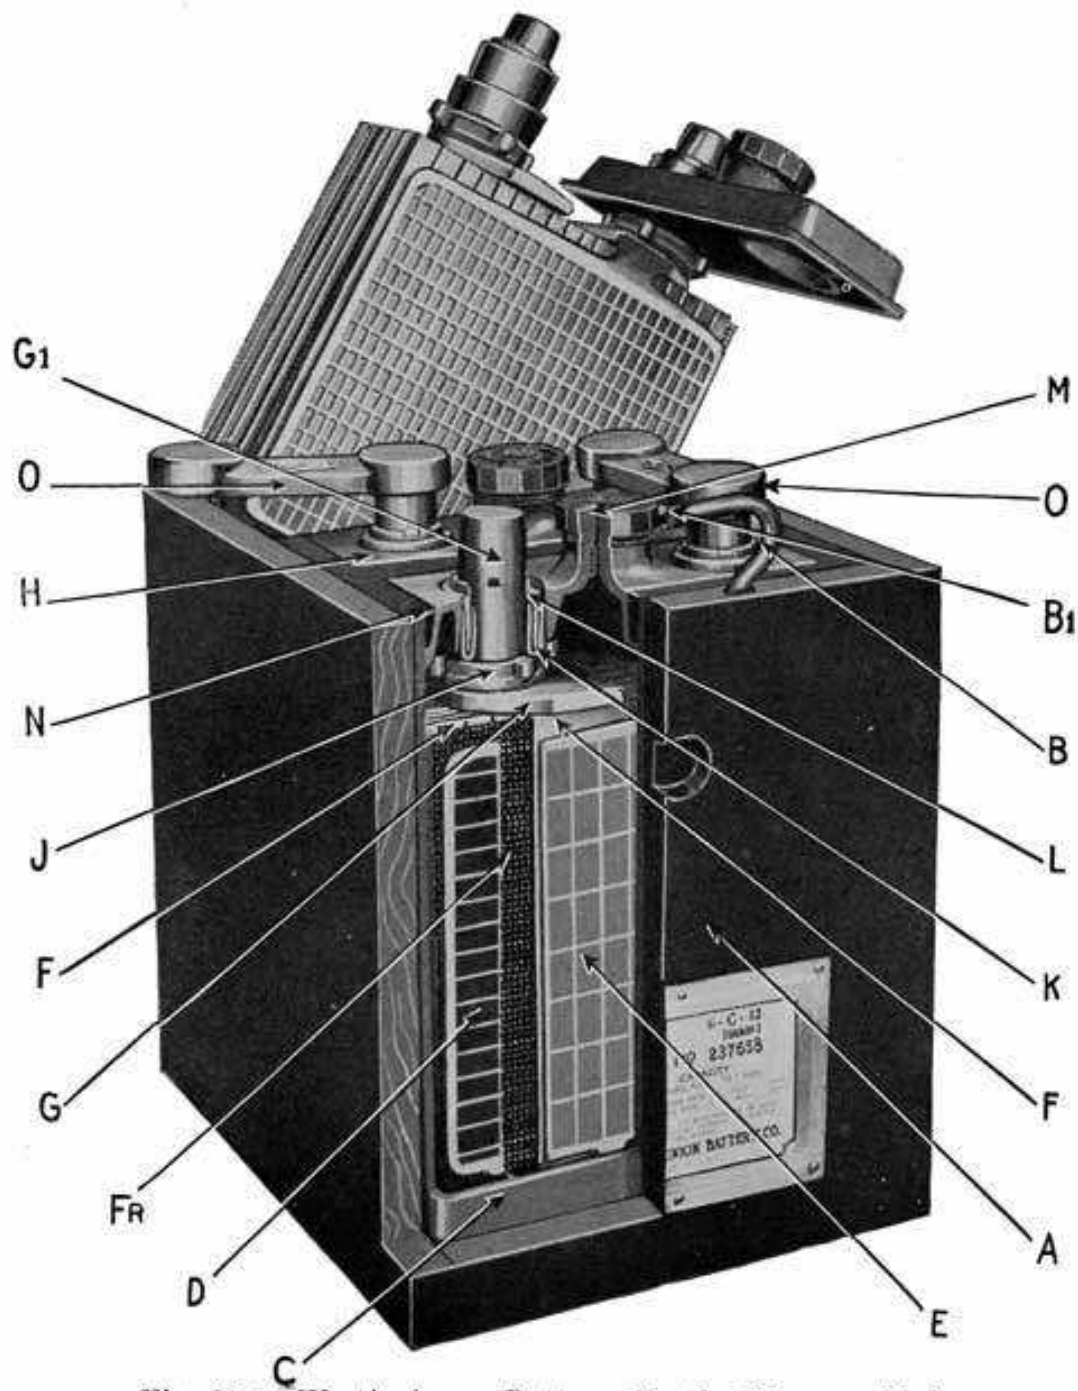

Fig. 275. Westinghouse Battery, Partly Dis-assembled
Westinghouse batteries have a special seal between covers and posts, as' shown in Fig. 275. A lead foundation washer (J) is set around the post. A "U" shaped rubber gasket, (K) is then forced between the cover and post, with the open end up. The lips of this gasket are tapered, with the narrow edge up. A tapered lead sleeve (L) is then forced between the lips of gasket (K), thereby pressing the inner lip against the post and the outer lip against the cover.